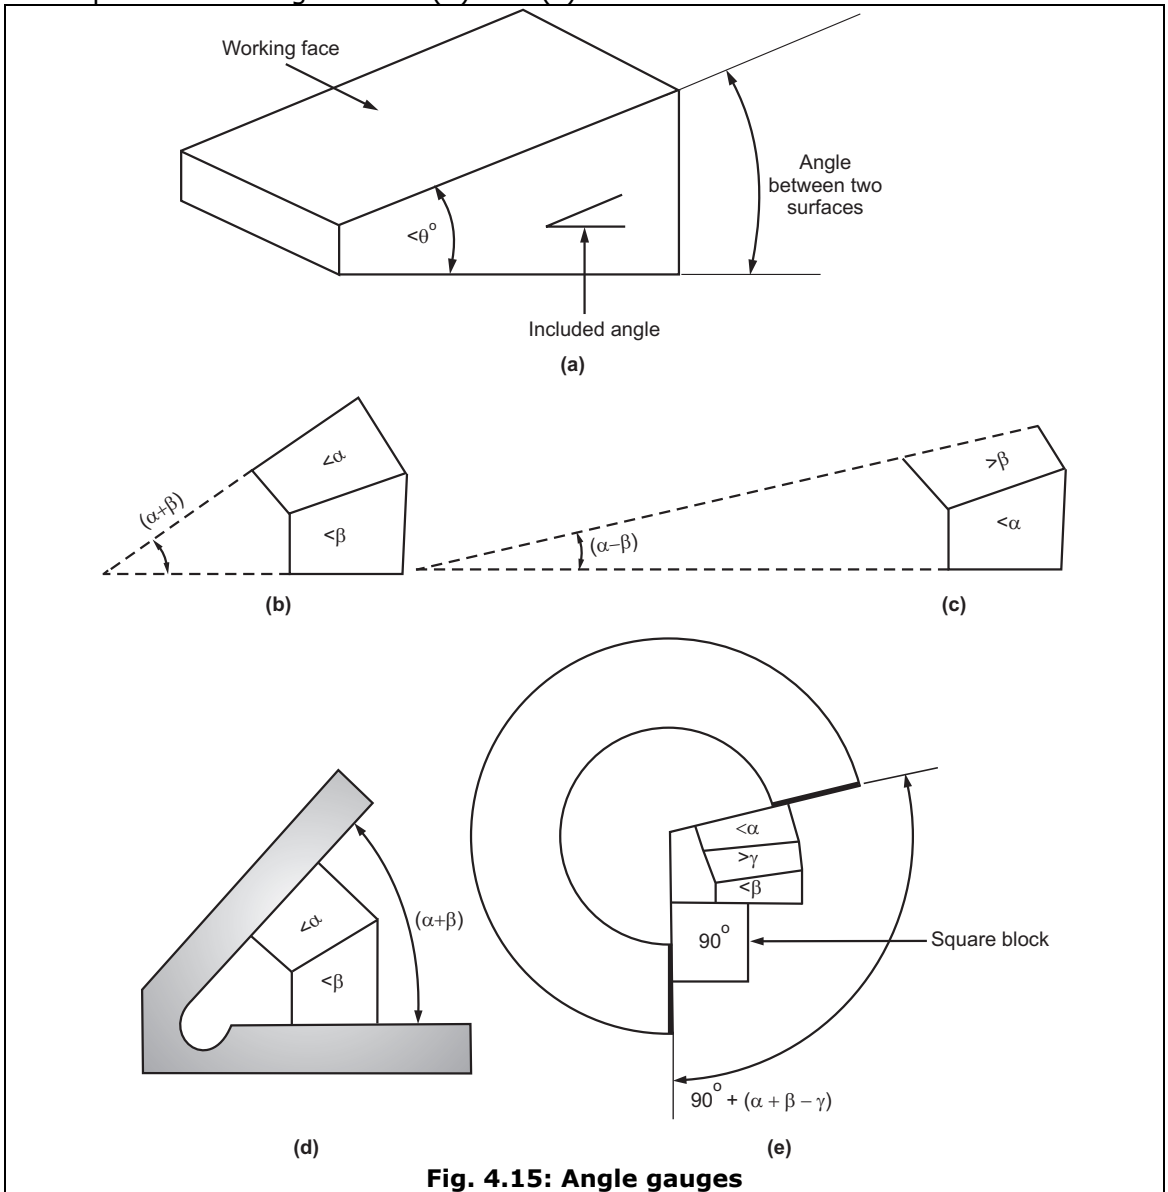

Fig. 4.15: Angle gauges
- This is possible because the gauges in combination can be added or subtracted as required. Refer Figure 4.15 (b) and (c).